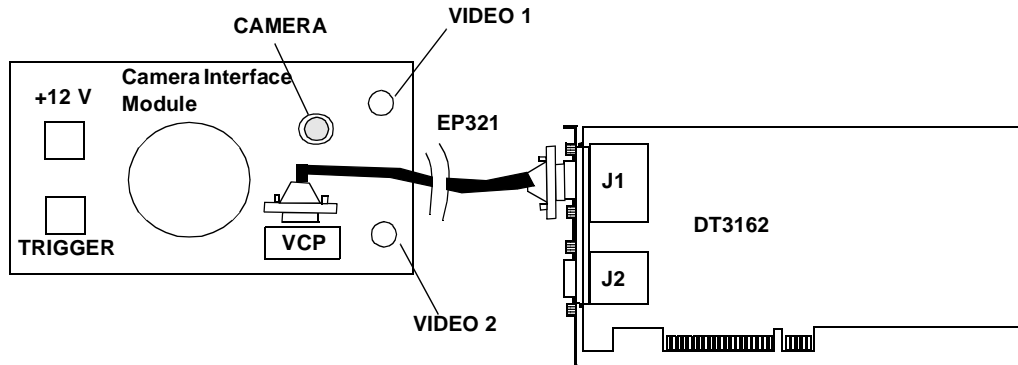

Figure 4: Connecting the Camera Interface Module to Connector J1
1. After making sure power to the computer is off, push one end of the EP321 cable into the J1 socket at the rear of the DT3162 board, push the other end of the EP321 cable into the VCP connector of the Camera Interface Module, and tighten the screws on both connectors. Figure 4 illustrates this step.